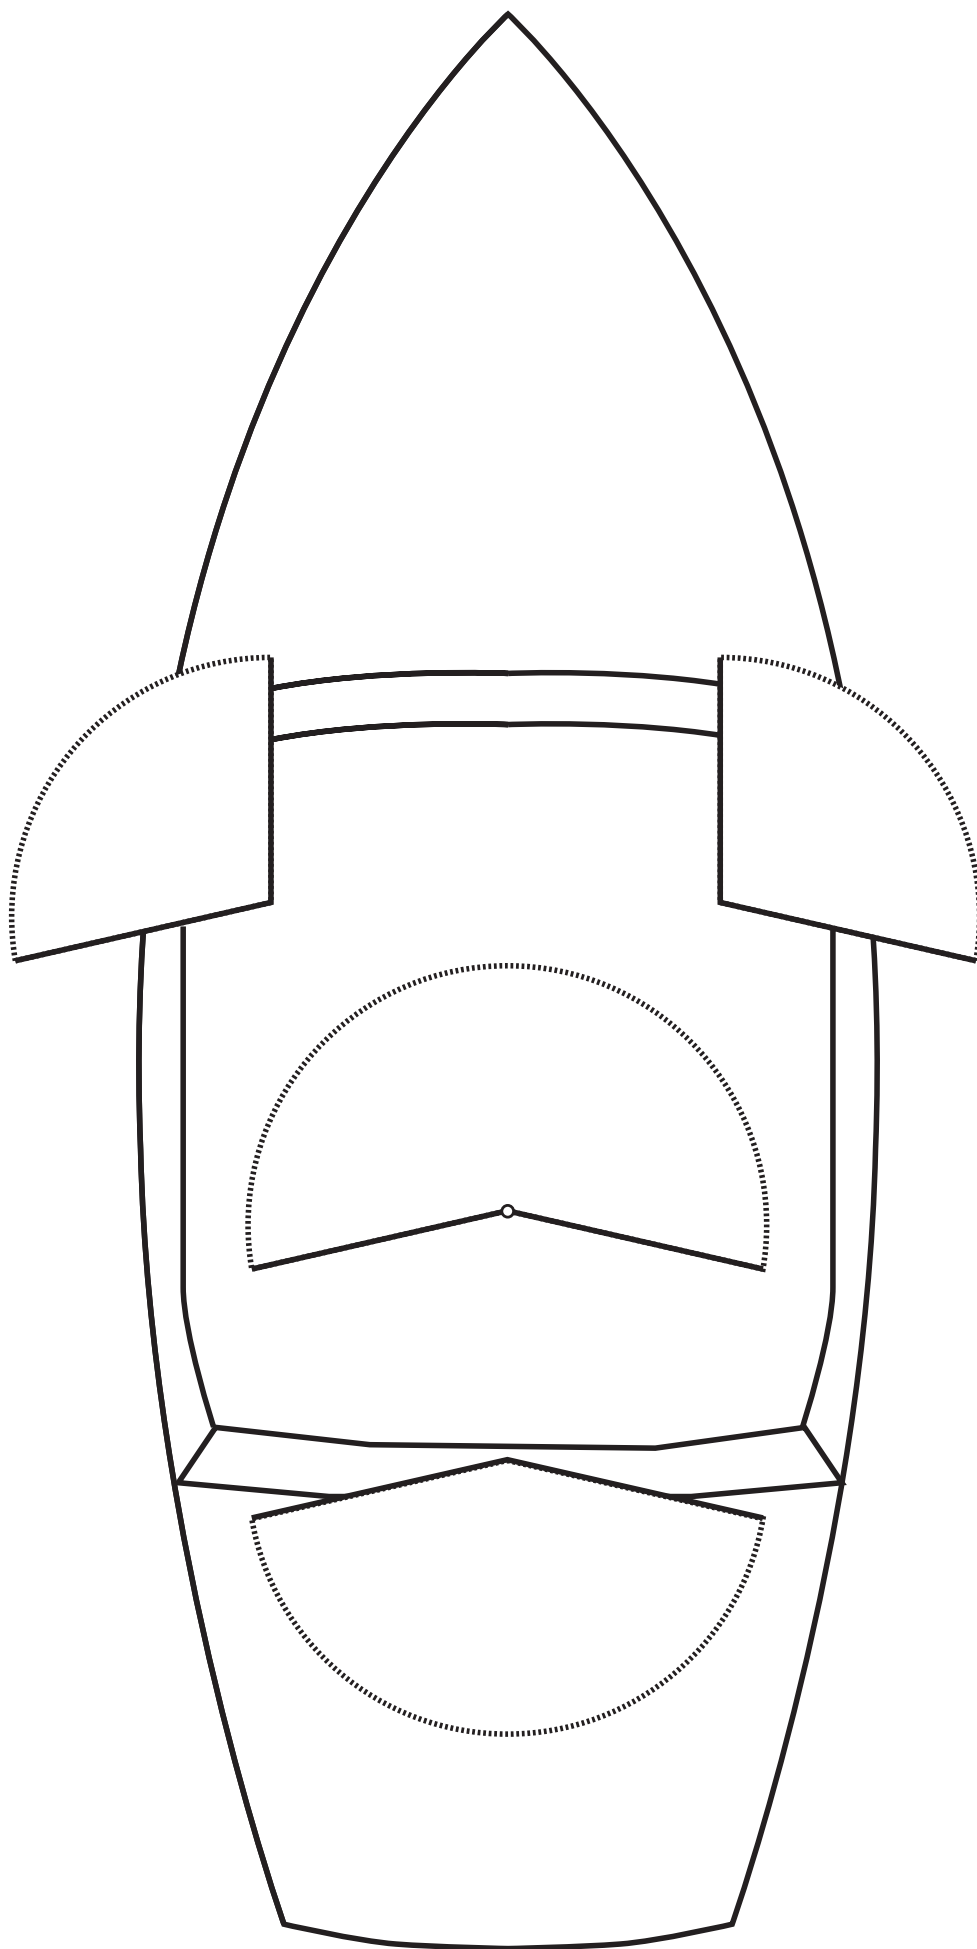

Figure 59.1
2. Use the model boat as shown in Figure 59.1 to colour in the definitions of lights.